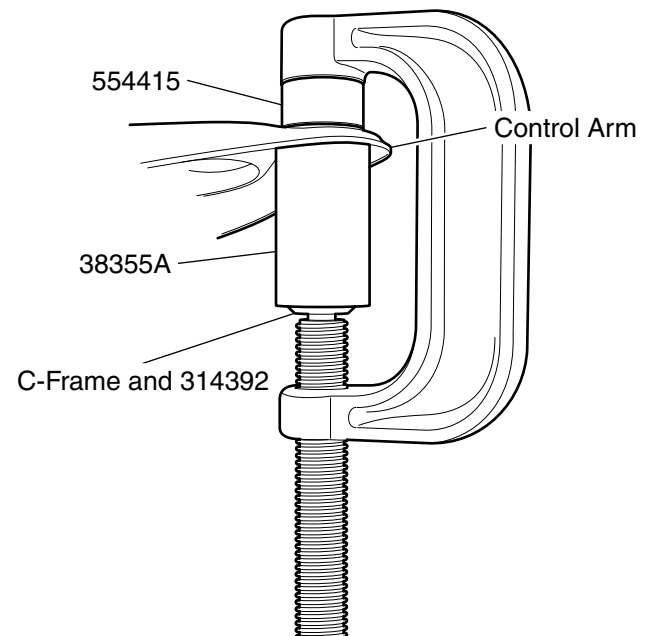

Figure 2. Ball Joint Installation
3. Position 554415 and 38355A on the ball joint as shown in Figure 2.